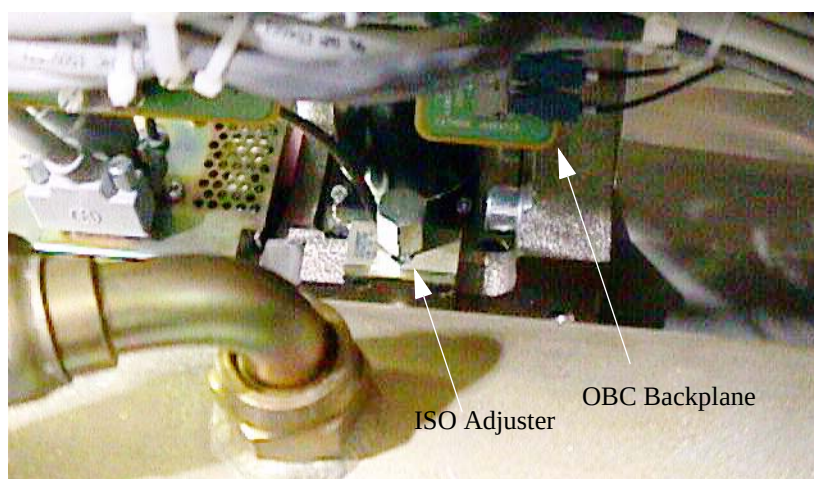

Figure 4-5 ISO Alignment Adjuster
- 9.) Adjust the tube UP / DOWN as indicated by the calculation. The adjustment bolt is located on the top of the tube - Please see Figure 4-5.